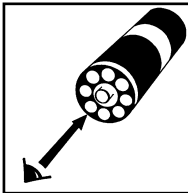

Figure 4
- a. Place the VACUette ampoule, flat end downward into the center of the low range comparator. Direct the top of the comparator up toward a bright source of light while viewing from the bottom. Rotate the comparator until the color standard below the ampoule shows the closest match (fig 4).